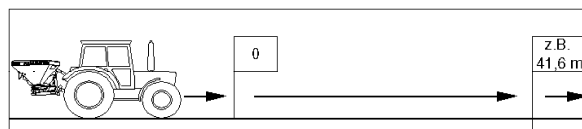

Fig. 67
4. On the field, measure the exact calibration distance. Mark the beginning and end points (Fig. 67).